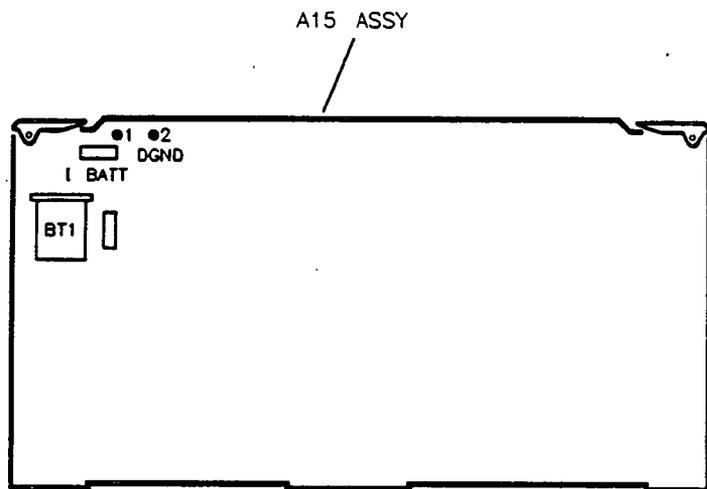

Figure 10-3. Instrument Battery (A15BT1) Location
3. Remove the old battery (Figure 10-3) and dispose of it properly (see previous warning).